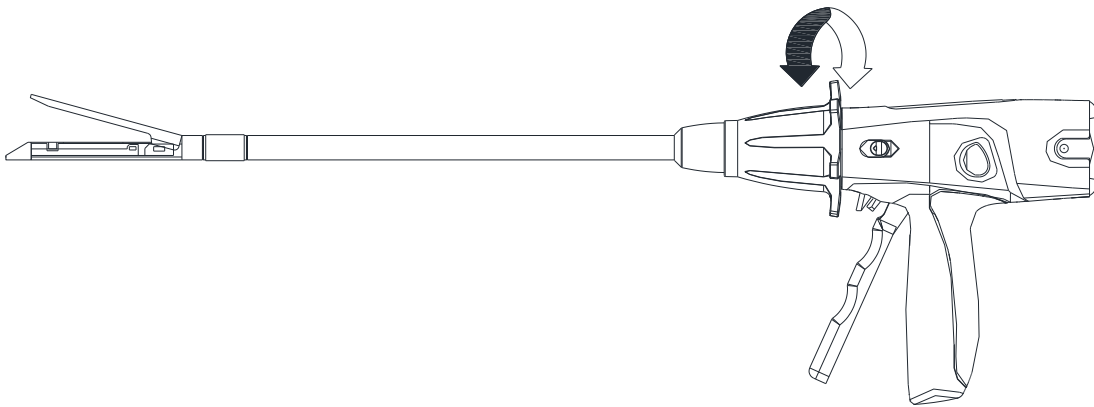

Figure 3-13
- 4) If necessary, use your index finger to push the fin of the knob downward or upward and rotate the device jaw. The device shaft will rotate freely in either direction (Figure 3-13).